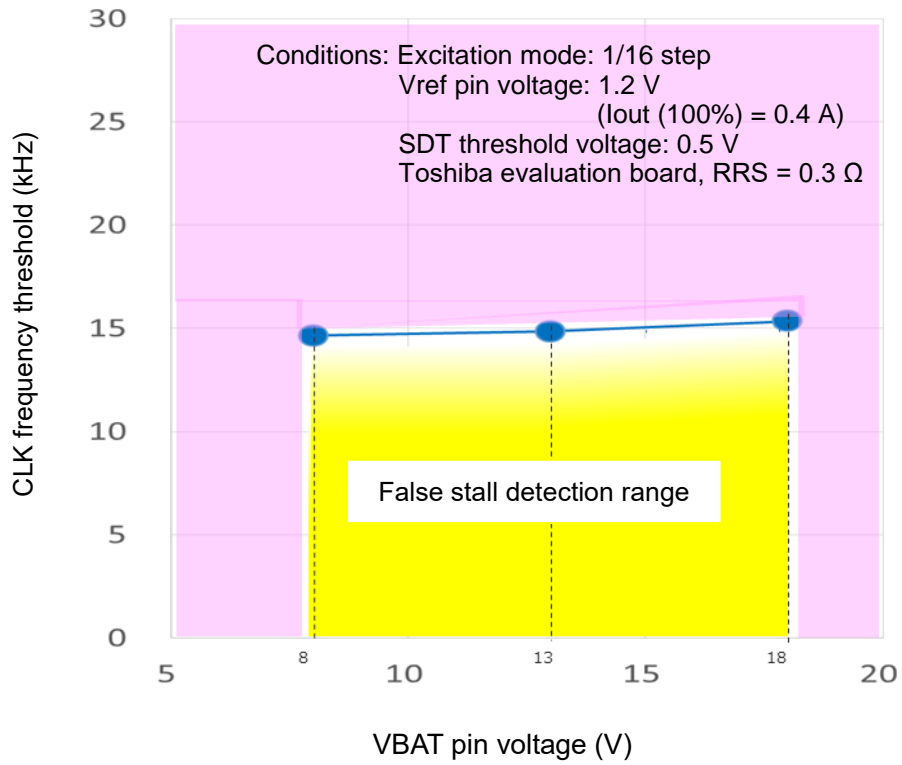

Figure 15. VBAT pin voltage vs. CLK frequency threshold (for reference)
- As shown in Figure 15, the result is as follows: